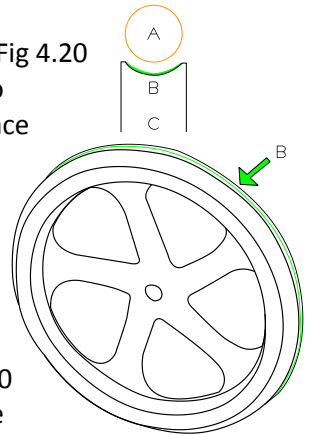

Figure 4.20
- Clean loose debris off the wheel rim (Fig 4.20 B) with acetone. It is not necessary to remove all residual glue, but the surface should be smooth
- Stretch new tyre (Fig 4.20, A) in small sections at a time
- Apply a thin bead of tyre glue or apply tubular tape to the deepest part of the wheel rim channel (Fig 4.20 C), ensuring an even spread inside the rim channel